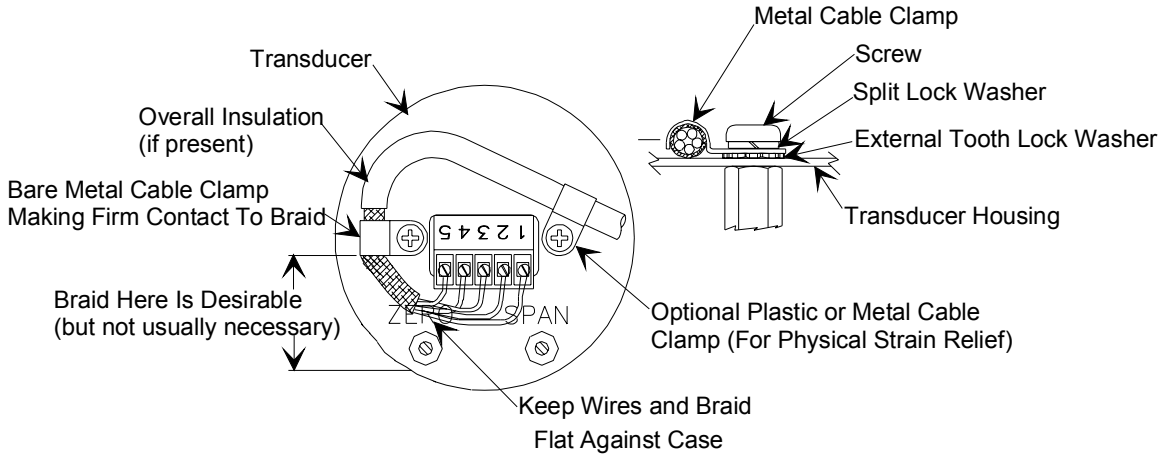
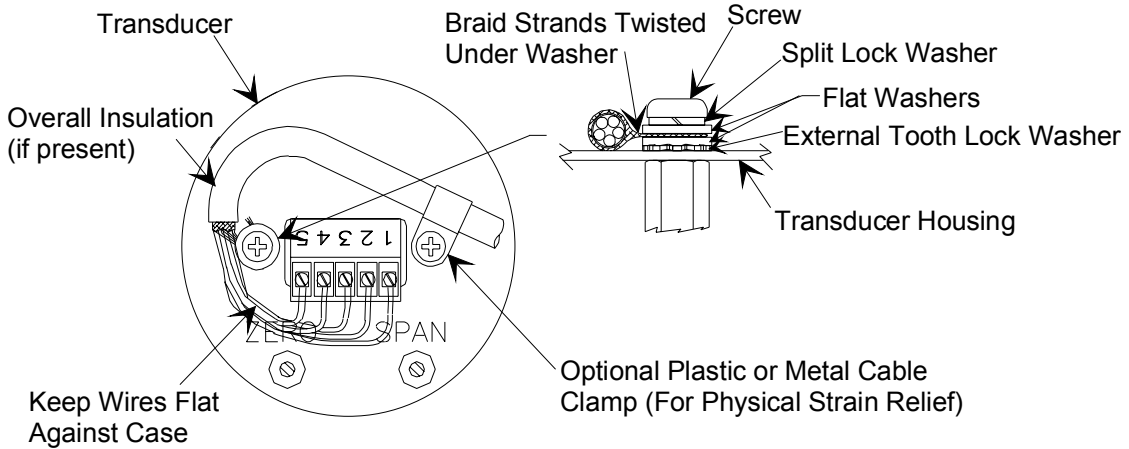

Figure 8: How To Connect the Cable to a Terminal Block (Example 1)
Figure 9: How To Connect the Cable to a Terminal Block (Example 2)
4. For shielded cables with flying leads at one or both ends; it is important at each such end, to ground the shield *before* the wires exit. Make this ground with absolute minimum length. Refer to Figures 8 and 9, page 17. (A ¼ inch piece of #22 wire may be undesirably long since it has approximately 5 nH of inductance, equivalent to 31 ohms at 1000 MHz). After picking up the braid's ground, keep wires and braid flat against the case. With very few exceptions, grounded metal covers are not required over terminal strips. If one is required, it will be stated in the Declaration of Conformity or in the instruction manual.
The cable to the terminal block connector must be firmly attached to the top of the transducer, in order to comply with CE Mark requirements. Figure 8 shows the preferred method to connect the cable; using a metal cable clamp to affix the cable to the transducer. Figure 9 shows an alternate method; wrapping the braided shield under the screw. Both examples show the cable securely clamped to the transducer.